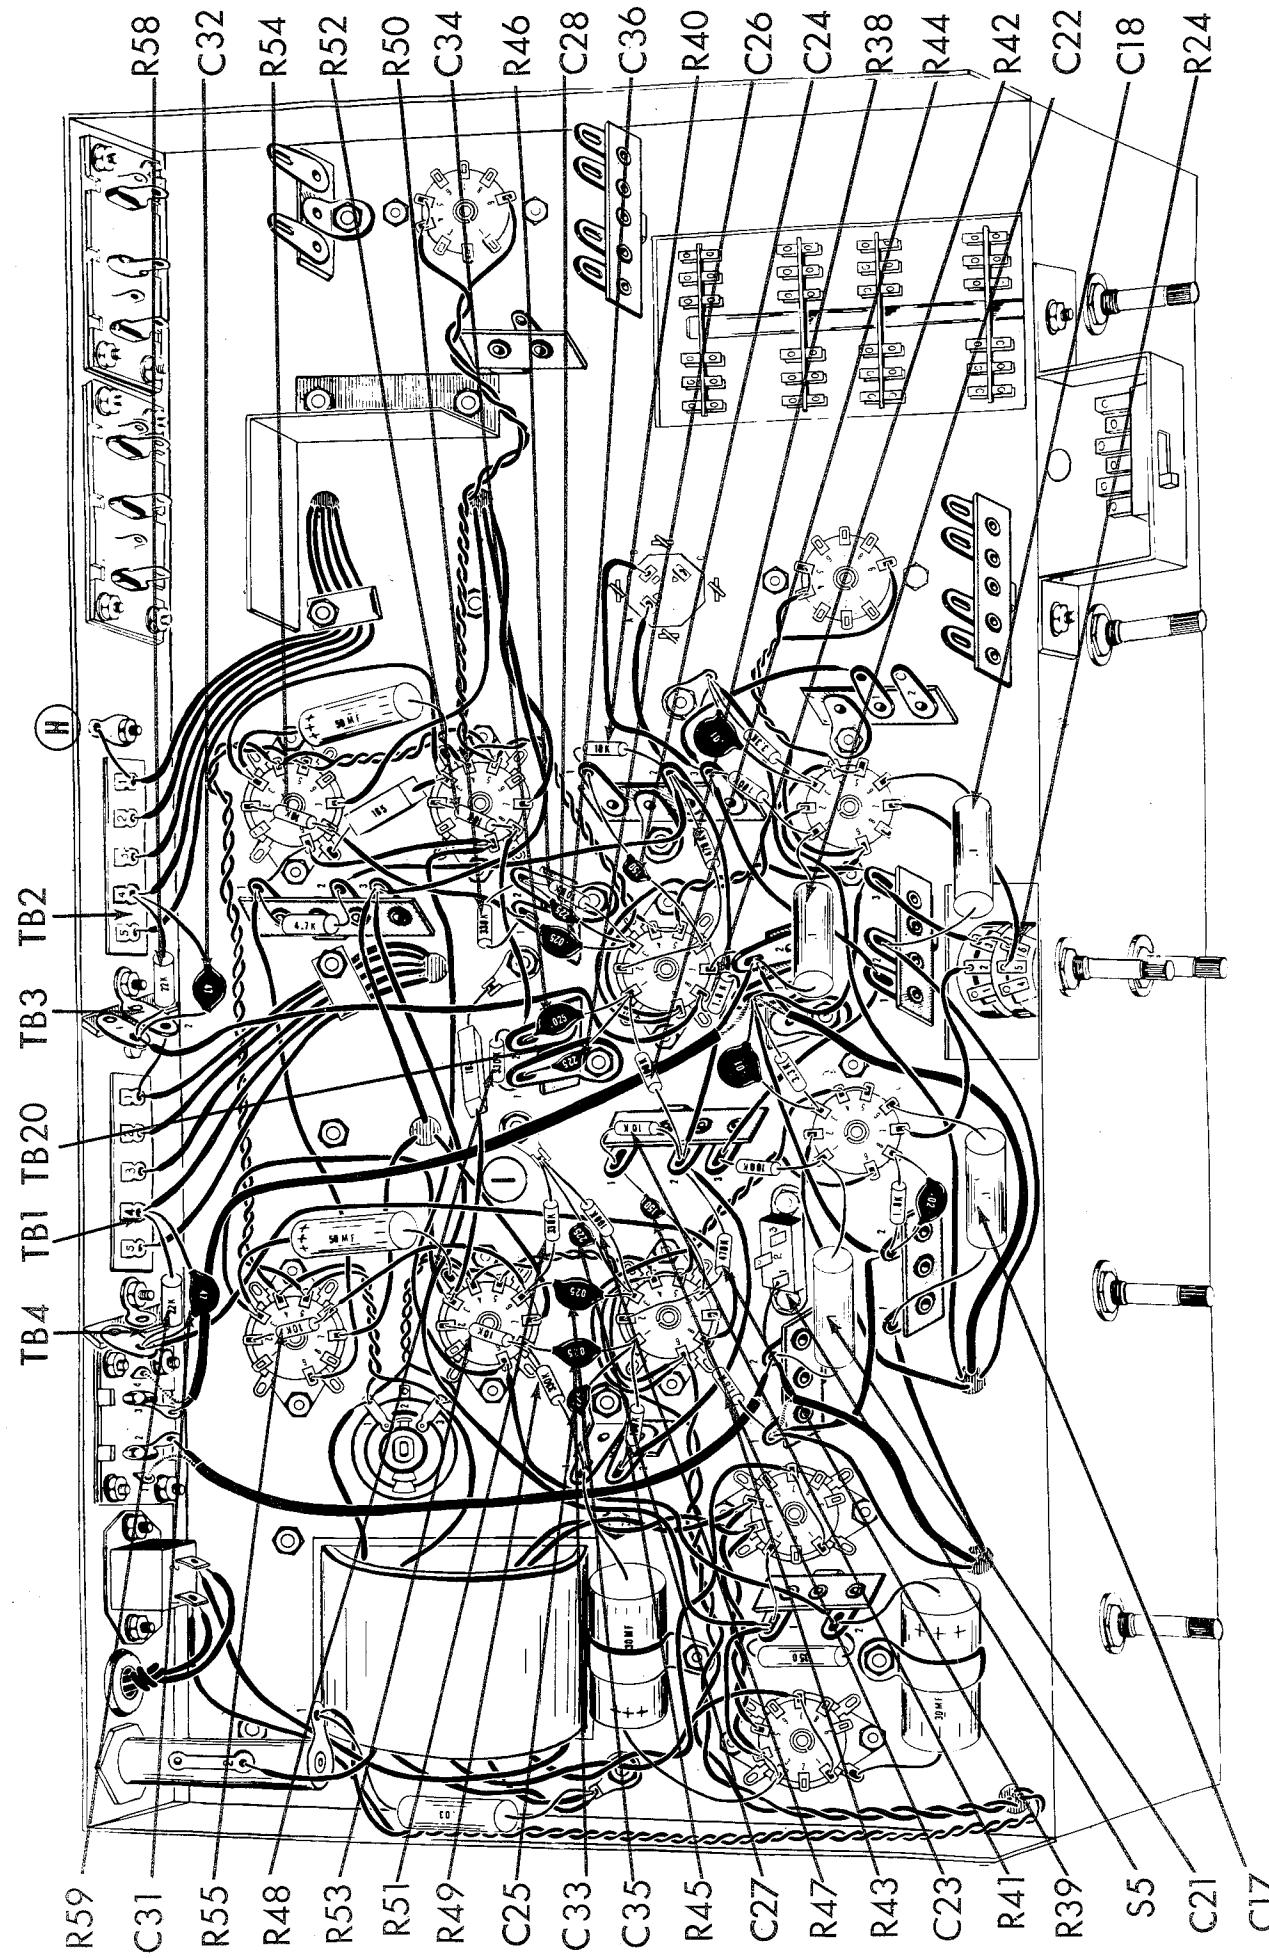

Fig. 9
- ( ) Fig. 9. Connect a 1/2" piece of green wire from R24-5 (S1) to XV4-7 (S1).
- ( ) Fig. 9. Connect a 9" piece of black wire from XV5-8 (C) to TB4 (C).
- ( ) Fig. 9. Connect a 9" piece of black wire from XV6-8 (C) to TB3-1 (C).
- ( ) Fig. 9. Cut all leads on two 47 mmf, 10% disc capacitors, C31 and C32, to 3/4". Connect C32 from TB2-4 (C) to TB3-1 (C) and the other capacitor, C31, from TB1-4 (C) to TB4 (C). Each lead is to be covered with a 1/2" piece of spaghetti.
- ( ) Fig. 9. Connect a 1" piece of bare wire from TB1-1 (S2) to TB3-2 (S1).
- ( ) Fig. 9. Connect a 1" piece of bare wire from TB2-1 (S2) to ground lug "H" (S1).
- ( ) Fig. 9. Cut all leads on the two 22KΩ (red, red, orange, gold) 5% resistors, R58 and R59, to 3/4". Connect R58 from TB2-4 (S3) to TB3-1 (S3) and R59 from TB1-4 (S3) to TB4 (S3). Each lead is to be covered with a 1/2" piece of spaghetti.
- ( ) Fig. 9. Cut all leads on the six 10KΩ (brown, black, orange, silver) resistors, R40, R41, R52, R53, R54, and R55, to 1/2". Connect R55 from XV8-6 (S2) to XV8-2 (S1). Connect R53 resistor from XV7-8 (C) to XV7-2 (S1). Connect R54 from XV10-8 (S2) to XV10-2 (S1). Connect R52 from XV9-8 (C) to XV9-2 (S1). Connect R41 from TB9-1 (C) to TB9-2 (C). Connect R40 from TB18-1 (C) to TB18-2 (C).
- ( ) Fig. 9. Connect a 3" piece of grey wire from TB20-2 (C) to XV9-8 (S2).
- ( ) Fig. 9. Cut all leads on the two 330KΩ (orange, orange, yellow, silver) resistors, R48 and R50 to 1/2". Connect R50 from TB19-2 (C) to TB19-1 (C). Connect R48 from TB20-1 (C) to TB20-2 (C).
- ( ) Fig. 9. Cut all leads on the two 330KΩ (orange, orange, yellow, silver) resistors, R49 and R51 to 3/4". Connect R49 from TB10-1 (C) to XV7-8 (C). Connect R51 from XV7-6 (C) to ground lug "I" (C).
- ( ) Fig. 9. Cut all leads on the two 100KΩ (brown, black, yellow, gold) 5% resistors, R45 and R46, to 1/2". Connect R45 from XV5-1 (C) to TB10-2 (S2). Connect R46 from XV6-3 (C) to TB19-2 (C).
- ( ) Fig. 9. Cut all leads on the two 100KΩ (brown, black, yellow, gold) 5% resistors, R44 and R47, to 3/4". Connect R47 from XV5-3 (C) to ground lug "I" (C). Connect R44 from XV6-1 (C) to TB9-2 (C).
- ( ) Fig. 9. Cut all leads on the two 225 mmf disc capacitors, C25 and C28 to 3/4". Connect C25 from XV5-1 (S3) to TB10-1 (S3). Connect C28 from XV6-3 (S3) to TB19-2 (S3).
- ( ) Fig. 9. Cut all leads on the two 225 mmf disc capacitors, C26 and C27, to 1". Connect C27 from XV5-3 (S3) to ground lug "I" (S3). Connect C26 from XV6-1 (S3) to TB20-1 (S2).
- ( ) Fig. 9. Cut all leads on two 1.8KΩ (brown, grey, red, gold) 5% resistors, R42 and R43, to 3/4". Connect R43 from XV5-8 (S2) to TB7-1 (S5). Connect R42 from XV6-8 (S2) to TB21-1 (C).
- ( ) Fig. 9. Cut all leads on two 470KΩ (yellow, violet, yellow, silver) resistors, R38 and R39, to 3/4". Connect R39 from XV5-6 (C) to TB9-2 (S5). Connect R38 from XV6-6 (C) to TB18-2 (S5).
- ( ) Fig. 9. Cut all leads on two 150mmf disc capacitors, C23 and C24, to 1". Connect C23 from XV5-6 (C) to TB9-1 (S2). Connect C24 from XV6-6 (C) to TB18-1 (S2).
- ( ) Fig. 9. Connect a 1 1/4" piece of bare wire from TB7-2 (C) to S5-1 (S1).
- ( ) Fig. 9. Connect a 3/4" piece of bare wire from TB21-2 (C) to XV6-7 (S1).
- ( ) Fig. 9. Connect a 1" piece of bare wire from XV5-2 (S1) to XV5-6 (S3).
- ( ) Fig. 9. Connect a 1" piece of bare wire from XV6-2 (S1) to XV6-6 (S3).
- ( ) Fig. 9. Cut all leads on four 1 mfd (brown, black, yellow, yellow) molded capacitors, C17, C18, C21 and C22, to 3/4". Cover each lead with a 1/2" piece of spaghetti. Connect C17 from XV3-6 (C) to TB8-1 (S2). Connect C18 from XV4-6 (C) to TB11-2 (S2). Connect C21 from XV3-1 (C) to TB7-2 (S4). Connect C22 from XV4-1 (C) to TB21-2 (C). Dress the leads as shown and push all capacitors flat against the chassis.